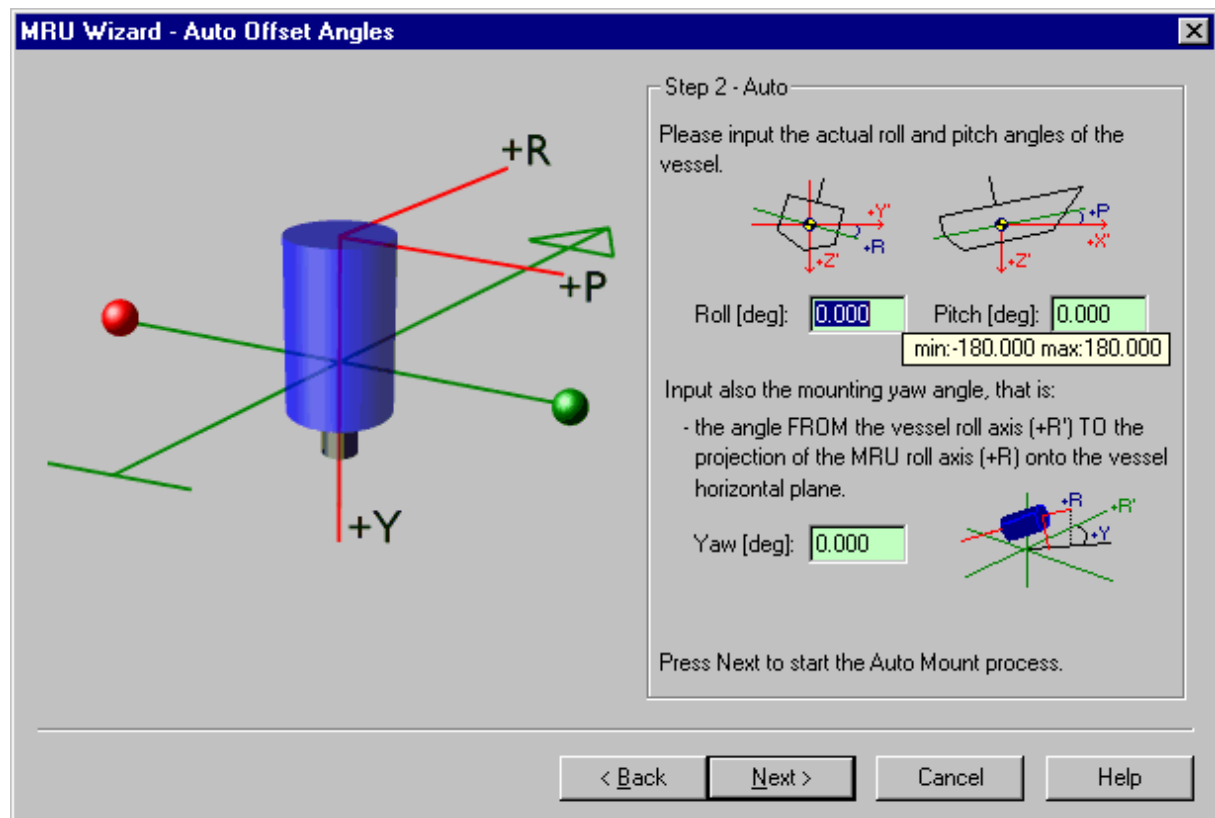

Figure 49 Step 2 of Auto MRU Axis Orientation
- Automatic setup selected in Step 1. Click **Next** to go to the **Step 2 –Auto** window, as shown in Figure 49.